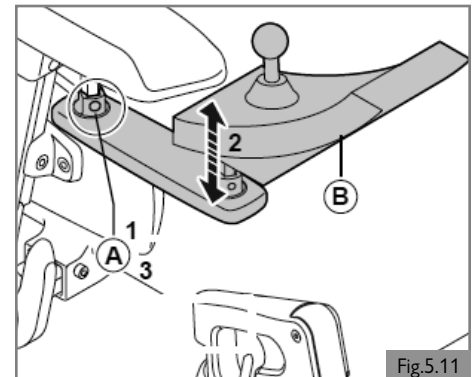

Fig.5.11
1. Loosen (A) by one turn.
2. Adjust (B) to the desired position.
3. Tighten (A). See section 9 for specified torque values.
Height of the controller (1) (Fig. 5.11)